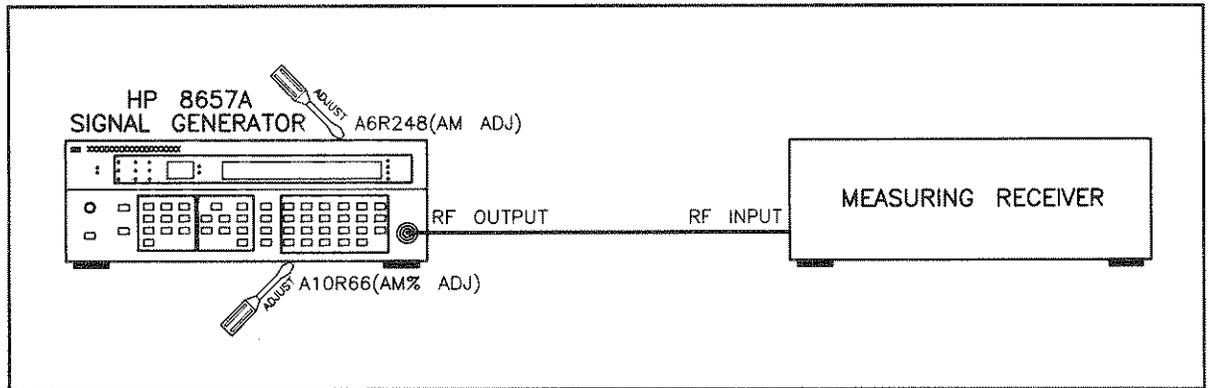

Figure 5-15. AM% and ALC Loop AM Adjustments Setup
- 3. Connect the measuring receiver to the RF OUTPUT connector on the Signal Generator and connect the distortion analyzer as shown in Figure 5-15.